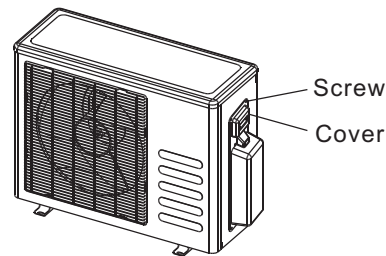

Fig.61
- Remove the electrical control board cover from the outdoor unit by loosening the screw as shown in Fig.61